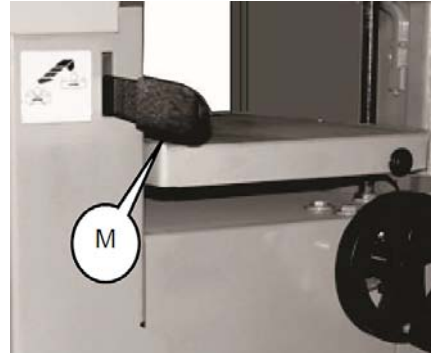

Fig. 28: Feed lever
Step 9: Press the lever (M, Fig.28) to start the feed